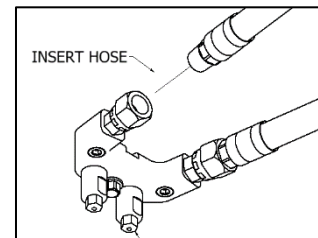
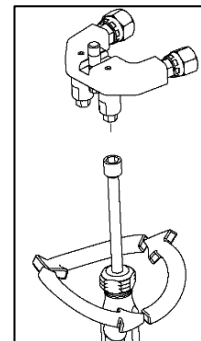

Figure 5: Coupling Block Hose Installation
Figure 6: Closing Manual Valves
2. Install hose to the **Coupling Block** (see Figure 5).
**NOTE!** The material delivery hoses are color coded Red and Blue. The Red corresponds to the Isocyanate (A) and the Blue to the Polyol (R). To avoid connection errors, the (A) and (B) hoses have connections with different sizes to avoid incorrect connections.
3. Ensure the **Manual Valves** are **CLOSED** by turning them to the full clockwise position using supplied 5/16" nut driver. (see Figure 6).